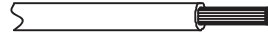

Fig. 20 —Stripping The Wire
2. Strip a suitable length of the insulation layer as shown in Fig. 20 below.